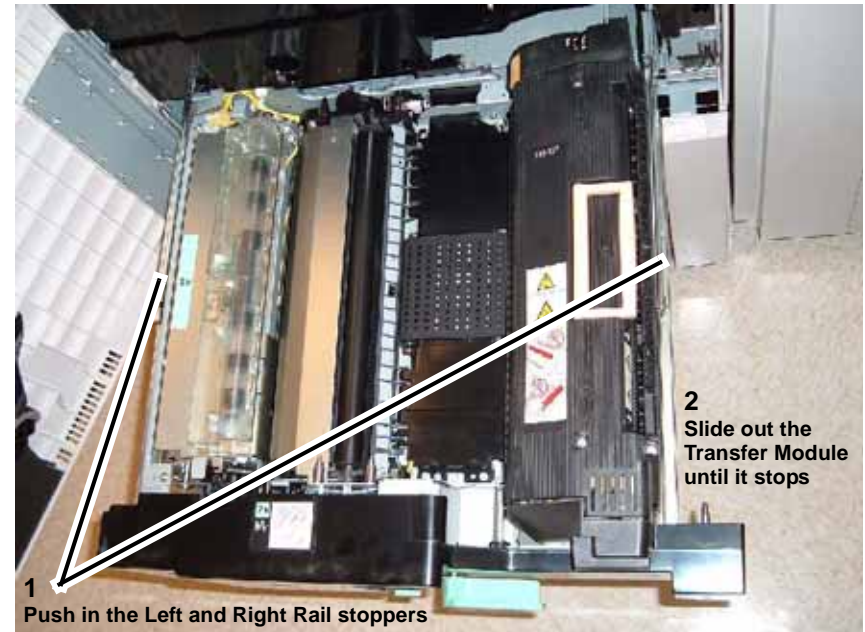

Figure 2 Sliding out the Transfer Module completely
3. Push in Rail stops and slide out Transfer Module completely (Figure 2).